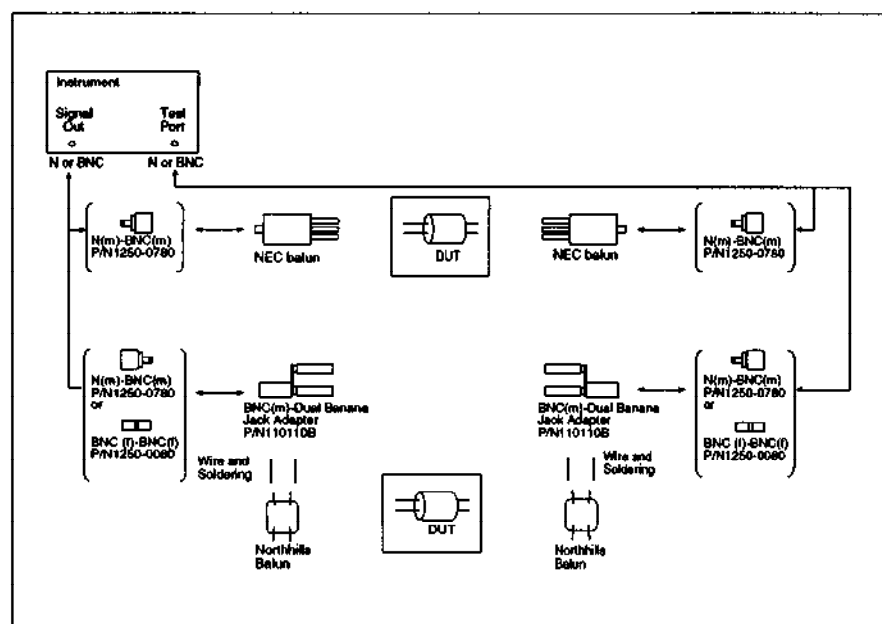

Figure 7. Measurement Configuration (3)
Figure 7 shows transmission measurement configuration (3) with a network analyzer or gain-phase analyzer.